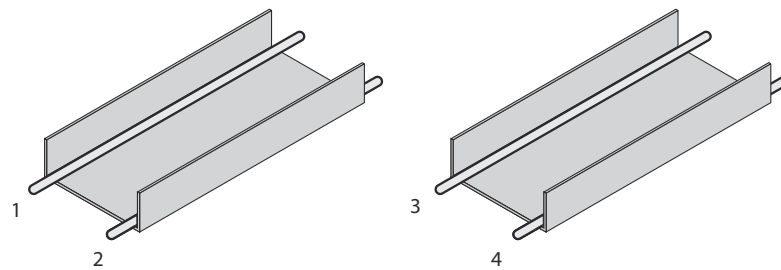
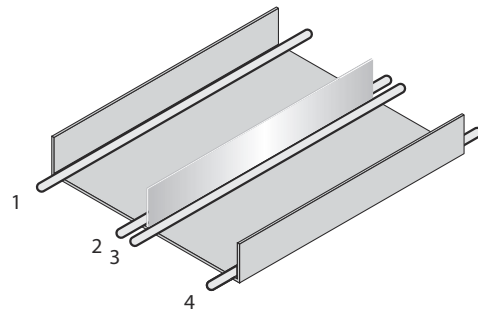

Figure 26: Ideal laying - Place cables in different cable channels
Figure 27: Alternative laying - Separate cables with metallic separators
- ▶ Route the cables in groups 1, 2 and 3, 4 in different cable channels or use metallic separators (see figure 26 and figure 27). This applies particularly if cables of devices with a high level of radiated emission, such as frequency converters, are laid parallel to device cables.